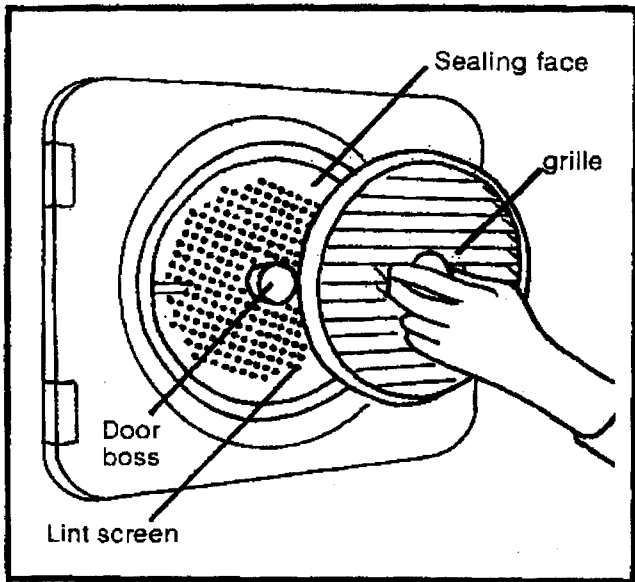
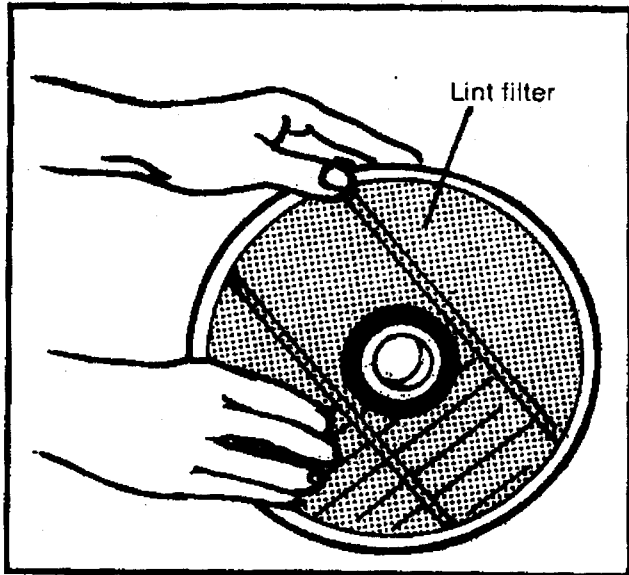

Fig. 3
Fig. 4
To ensure that articles are dried as quickly as possible, the Lint Filter, located behind the adjustable Outlet Grille, should be cleaned after each load. To gain access to the filter, remove the outlet grille by grasping the hub and pull outward (see Fig. 3). Turn the back of the outlet grille towards you to expose the Lint Filter. Thoroughly remove all lint by rubbing fingers gently against the Lint Filter mesh (see Fig. 4). In addition, remove any remaining lint from the perforated metal Lint Screen on the door.
Replace the outlet grille by locating its hub over the projection in the centre of the door and then push fully home. Ensure that no lint is trapped between the outside edge of the outer grille and its sealing face on the door (see Fig. 3).
4. Is the Lint Filter clean? If blocked a longer drying time or nuisance tripping of the Thermal Overload cut-out (T.O.C.) will result. See Fig. 4.